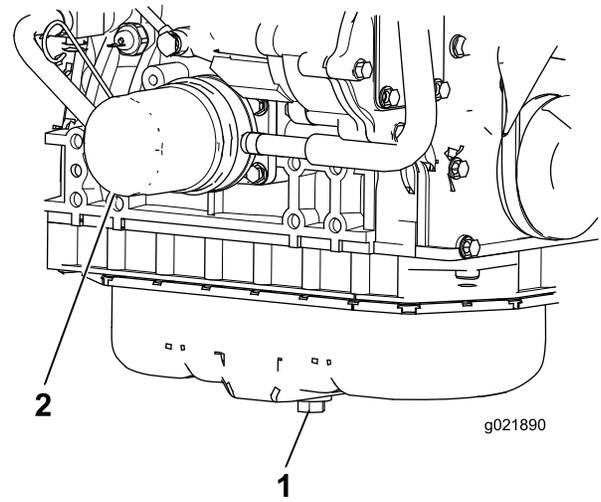

Figure 86
1. Remove the drain plug and let the oil flow into a drain pan (Figure 86).
3. Remove the oil filter (Figure 86).